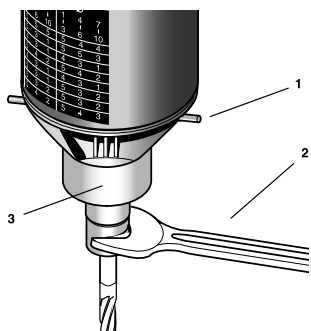

Fig. 3
1. Put the locking pin (1) into the requisite hole in the lower flange (see Fig. 3). If necessary, rotate the motor shaft to find the cross-hole in the shaft.